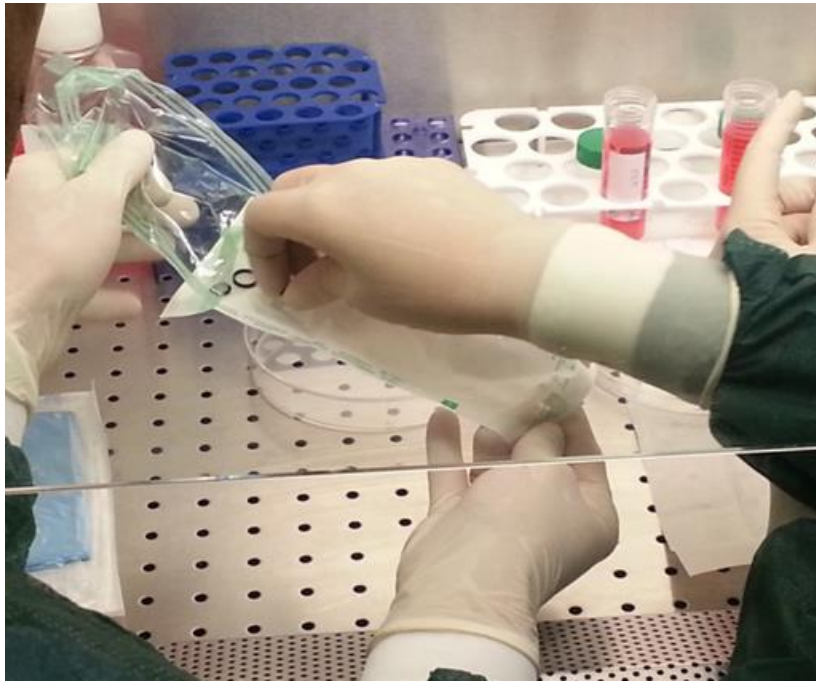

Figure 7
- Assembly must be done by two operators under micro-flow biological safety cabinet. One with sterile gloves (“MAIN” operator) and one with normal gloves (“SUPPORT” operator) who has the task to open the sterile envelopes and pass them to the main operator (Fig.7).